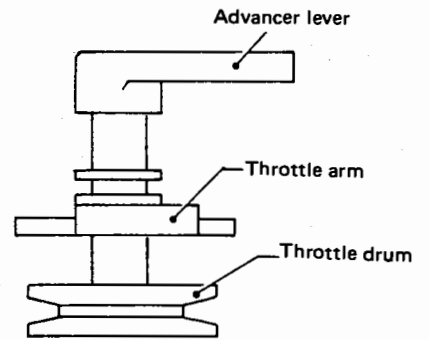

Fig.9.6
1. Assemble the throttle drum, throttle arm and advancer lever as shown in Fig.9.6. Attach the rod snap (3 mm diameter - B) to the throttle arm and the rod snap (5 mm diameter) to the advancer lever. Insert this subassembly into the bearing at the inlet manifold. Fix the throttle drum holder with screws (pan head P520-2). Apply antifreeze grease to the bearing portion.